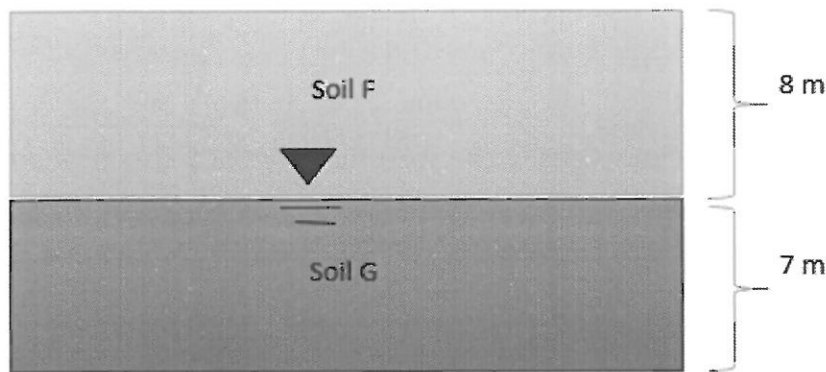
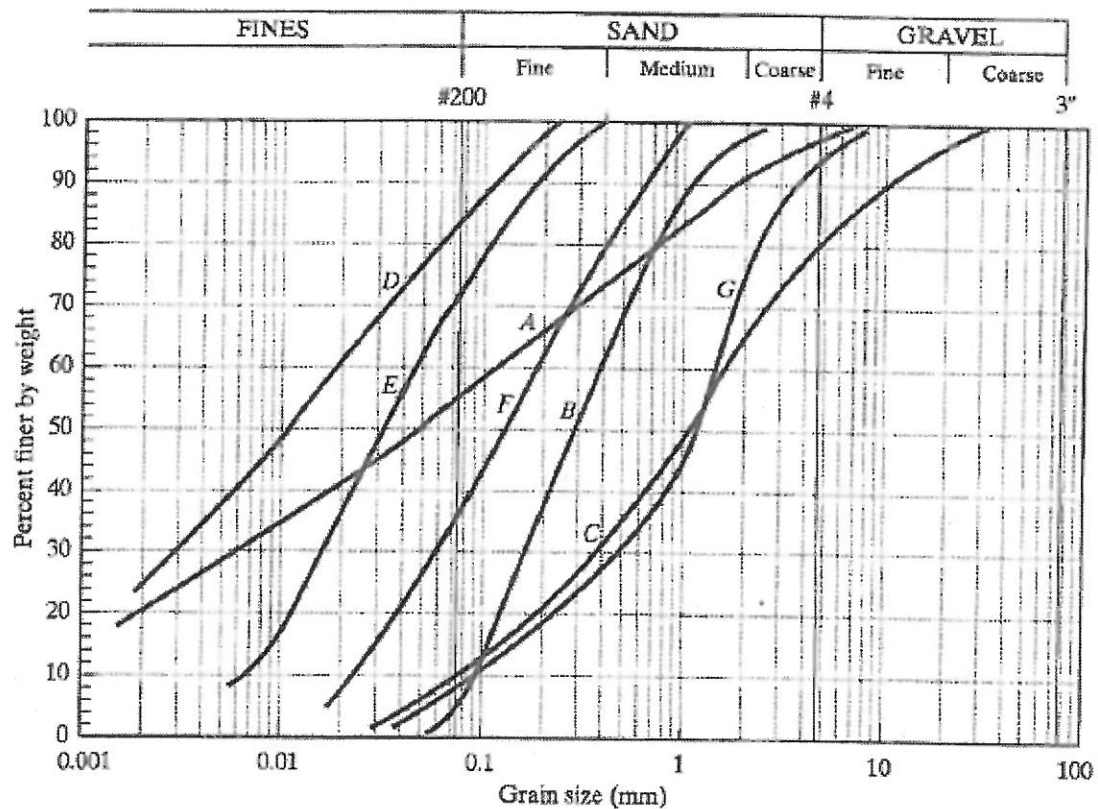

Figure 2.1
Figure 2.2
2.2) A profile of a soil: soil F is shown on the figure 2.1. A sample of it was taken 4 m below the natural ground level and a sieve analysis as well as atterberg limits test were performed on it. Figure 2.2 shows the results of the sieve analysis (curve F) and its atterberg limits were found to be: